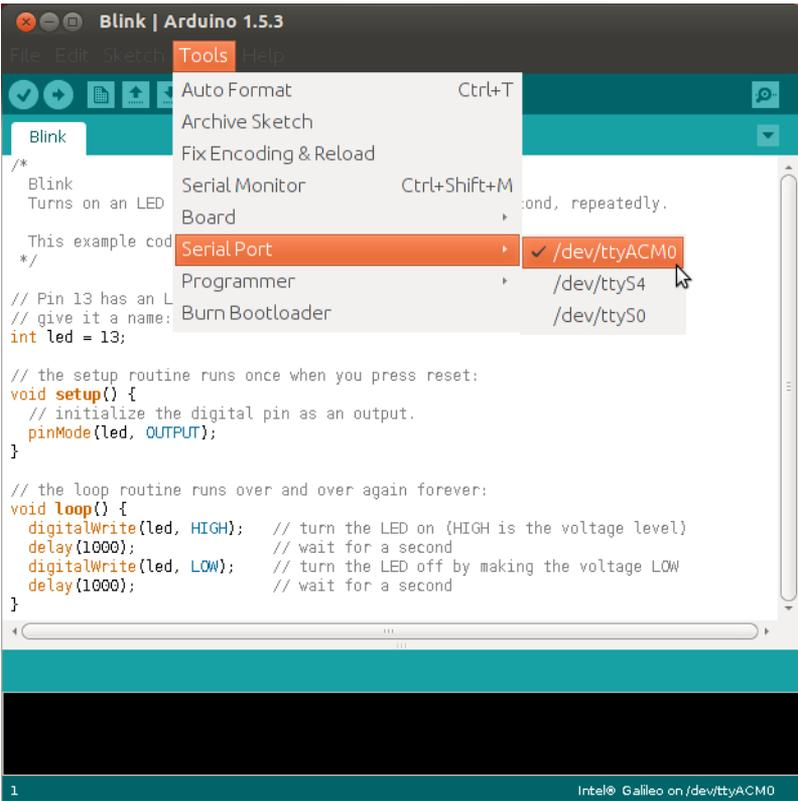

Figure F-1. Choose the serial port labeled `/dev/ttyACM0`.
9. Within the IDE, choose `/dev/ttyACM0` under Tools → Serial Port before uploading your sketch. (Figure F-1)